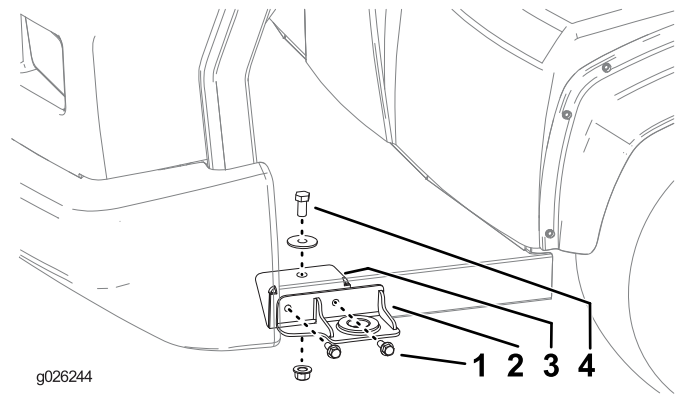

Figure 22
3. Install the front internal and external brackets on each side of the machine as shown in Figure 22 using 2 bolts (3/8 inch), 2 nuts (3/8 inch), 1 bolt (1/2 inch), 1 washer, and 1 nut (1/2 inch).